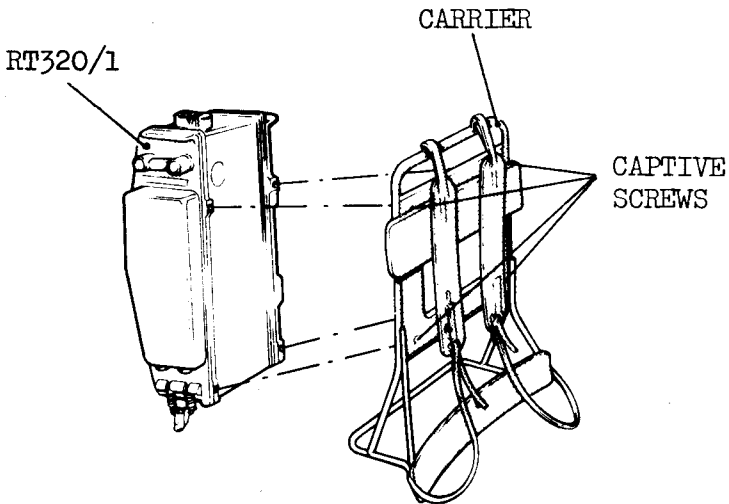

Fig.3 Fitting RT320/1 to Carrier
2.2 Fitting RT320/1 to carrier (Fig.3). Proceed as follows:-